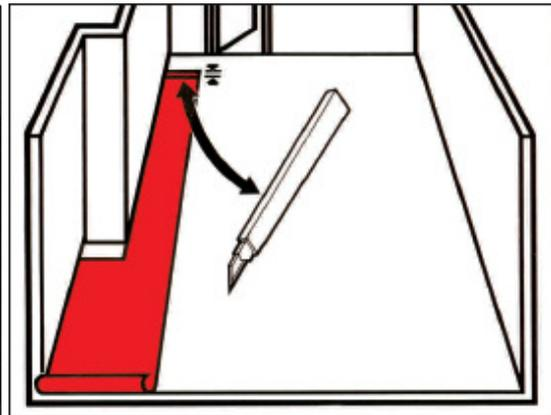

Fig 10.
- Cut along the line made by the long scribe, remove the off-cut and place the sheeting hard against the end wall. **Refer to Fig 10.**